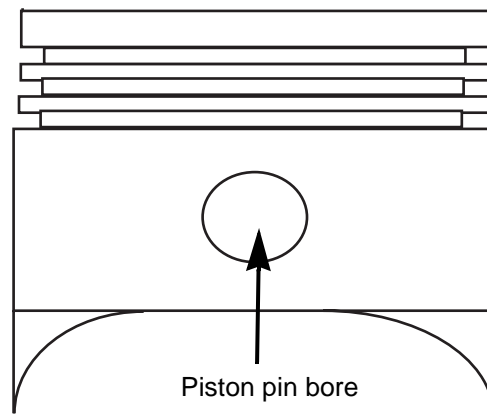

Figure 10.13
8. Measure the piston pin bore on both sides of the piston using telescoping gauges or vernier caliper. See Figure 10.13.